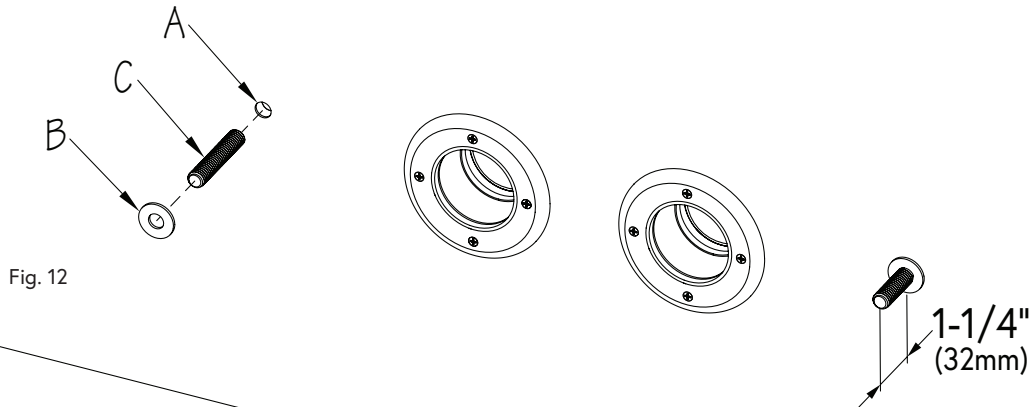

Fig. 12
10. Locate the Rivet Nuts (A) behind the liner. Use a sharp utility knife to cut out the round holes in the liner using the Rivet Nut holes as a template.
Thread the Stud (B) into the Rivet Nut so that 1-1/4" \pm 1/8" (32mm \pm 3mm) of the stud is protruding into the pool. Spread a thin bead of silicone on the face of the Rubber Washer (C) and then install the washer over the Stud, adhering to the liner (Fig. 12).